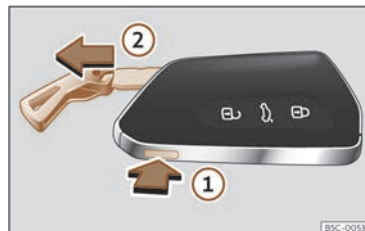

Fig. 70 Vehicle key: remove the key shaft.
- Press the >>> Fig. 70 ① button to release the ring from the key fob and remove the key blade ②. Pressing lightly on the ring leaves it fixed as a key fob.
- Press the >>> Fig. 70 ① button to unlock. Press and hold button ① and at the same time pull on the ring in the direction of arrow >>> Fig. 70 ② to completely remove the key shaft.